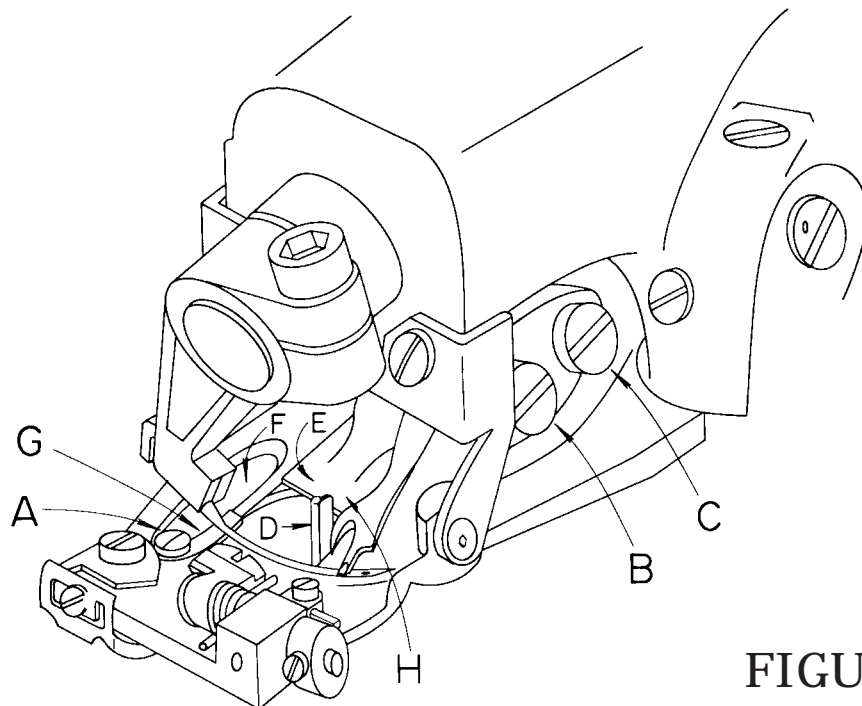
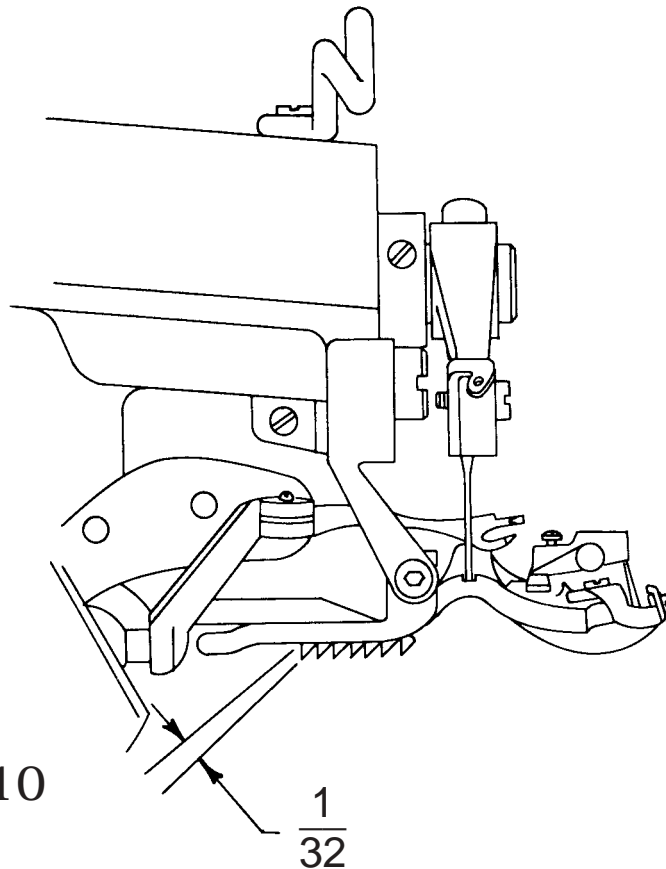

FIGURE 9
FIGURE 10
9. After all the necessary adjustments have been made, tighten all set screws and the lock nut and recheck all the adjustment points. Referring to **Figure 9**, the looper should now clear the chain-off pin (“D”), feeder (“E”), looper slot (“F”), needle, and pass over the needle in the correct position to pick up the loop.
1. After considerable service, it may be expected that the wearing action of the needle will cause a sharp edged groove to form on the needle guide (**item “G” in Figure 9**).
2. Loosen the needle guide attaching screw (**item “A” in Figure 9**) and remove the worn needle guide. Clear out any lint or dirt that may have accumulated under the old guide and insert the new guide. Insure that the new guide is seated flush with the top and side of the presser foot and then retighten the attaching screw. Slowly turn the handwheel in the direction away from the operator and check to insure that the new guide fits properly under the needle and that no interference has been introduced between the guide and the looper.
1. In the event that the machine develops difficulty by failing to properly feed the work, a worn feeder is frequently found to be the cause. After considerable service, especially with certain hard fabrics, the feeder teeth have a tendency to become dull, and the feeder should be replaced. In order to remove the old feeder, remove the front feeder attaching screw (*item "B" in Figure 9*) and loosen the rear feeder attaching screw (*item "C" in Figure 9*). The old feeder may then be slid out of place. Insert the new feeder under the rear screw and replace the front screw.
2. Before tightening the attaching screws check to see that the feeder is set to the proper depth. Referring to *Figure 10* this should be approximately $\frac{1}{32}$ " (.795m) below and parallel to the bottom of the presserfoot for all light and medium weight fabrics. For heavy fabrics, the setting should be approximately $\frac{1}{16}$ " (1.59mm) below and parallel to the bottom of the presserfoot. These dimensions are intended as guides and may be modified as required by the specific fabrics. Once the proper depth is established, rotate the handwheel slowly in a direction away from the operator and check to insure that the feeder clears the looper (*see Figure 9, Point "H"*) and also clears both sides of the feeder slot in the presserfoot. Firmly tighten the attaching screws (*Figure 9, Items "B" & "C"*) before resuming sewing.